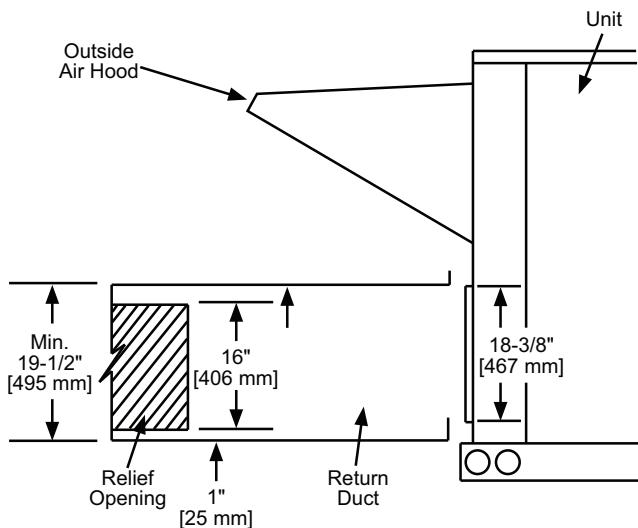

Fig. 34 – Relief Damper
1. Install the field provided horizontal ductwork onto the unit. Duct height must be at least 19-1/2 in. (495 mm) high, however the duct can be no taller than the top of the relief opening in the bottom panel, or airflow into the outside air hood will be restricted. See Fig. 34.
2. Cut a 16 in. x 36 in. (406 mm x 914 mm) opening in the return duct for the relief damper (see Fig. 34).